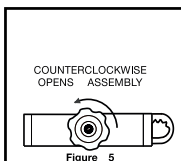

Figure 5
1. Open ratchet band by turning knob counterclockwise as shown in Figure 5.